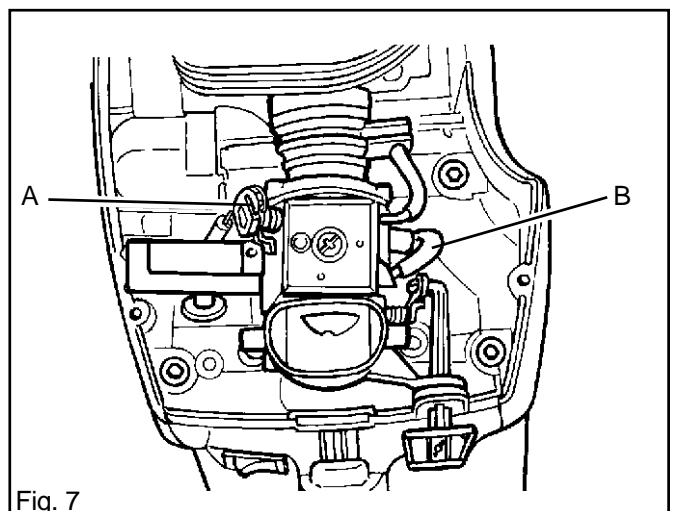

Fig. 7
11. Reconnect the fuel line (B) to the carburettor. See fig. 7.
12. Insert the throttle cable outer into its location and reconnect the throttle cable (A) to the carburettor. See fig. 7.
#### Carbon build-up. Fig 7.